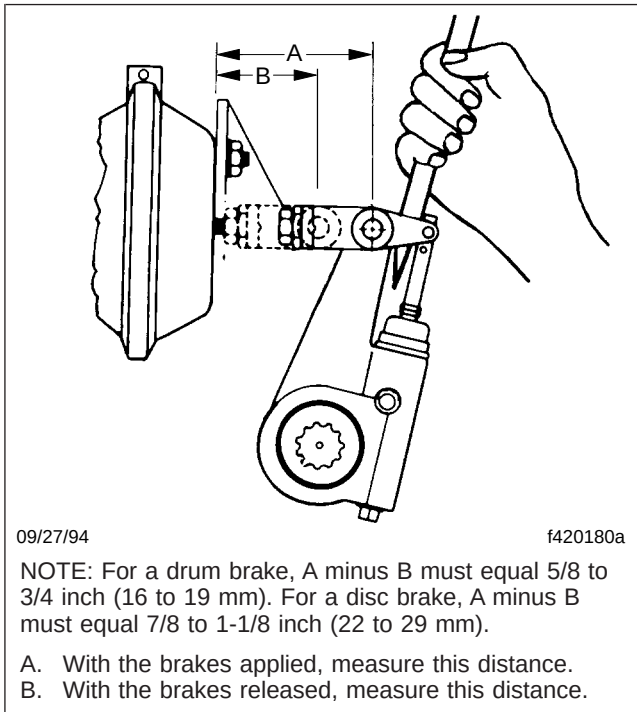

Fig. 5, Measuring Free-Stroke
- 3.1 With the brakes fully released, measure the distance from the bottom of the brake chamber to the center of the large clevis pin. See **Fig. 5**, Ref. A.
- 3.2 Use a pry bar to move the slack adjuster, applying the brakes. Again, measure the distance from the bottom of the brake chamber to the center of the large clevis pin. See **Fig. 5**, Ref. B.
- 4.1 With the brakes fully released, measure the distance from the bottom of the brake chamber to the center of the large clevis pin. See Fig. 5, Ref. A.
- 4.2 Build air pressure to 100 psi (690 kPa). Shut down the engine. Fully apply the brakes, then measure the distance from the bottom of the brake chamber to the center of the large clevis pin. See Fig. 5, Ref. B. The difference between the measurements is the brake chamber stroke.